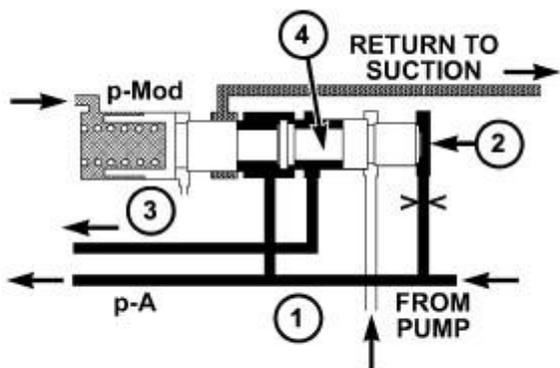

Fig. 220: Working Pressure Regulating Valve
The working pressure regulating valve (4) is located in the valve housing of the shift plate. Refer to **Fig. 220**. It regulates the primary pressure of the hydraulic system.